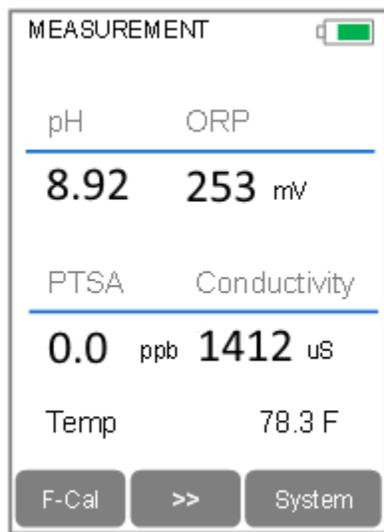

Figure 14
- 3) A screen similar to Figure 14 will appear. The unit is reading both conductivity and PTSA. The PTSA will be low or zero if the standard is solely a conductivity one. The conductivity reading should be close but not necessarily the same as the value of the standard added.
- 9) Or, press **Exit** (> key) to abandon calibration, and return to the basic read mode (Figure 14). No calibration will be done.